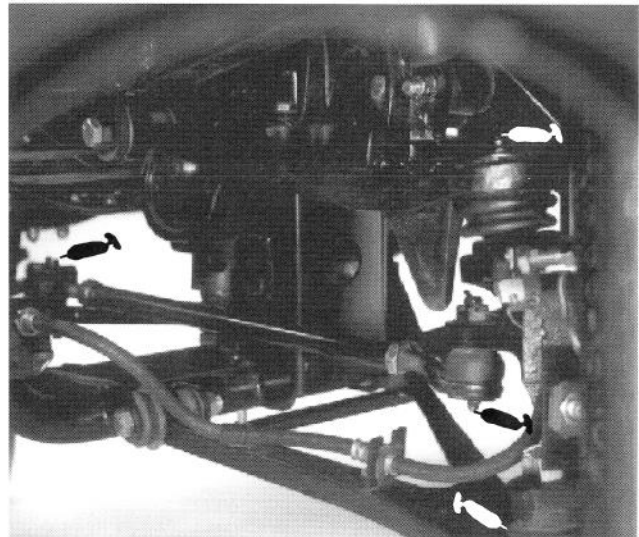
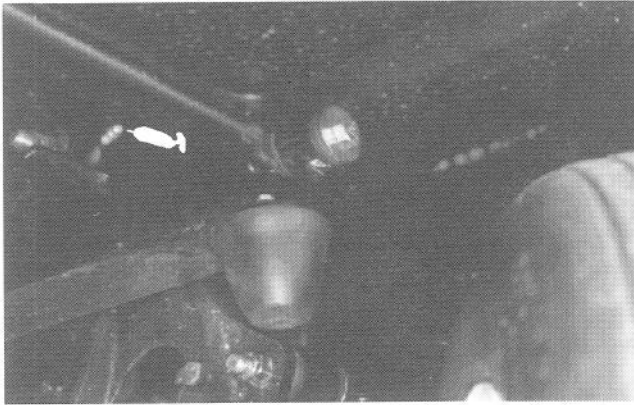
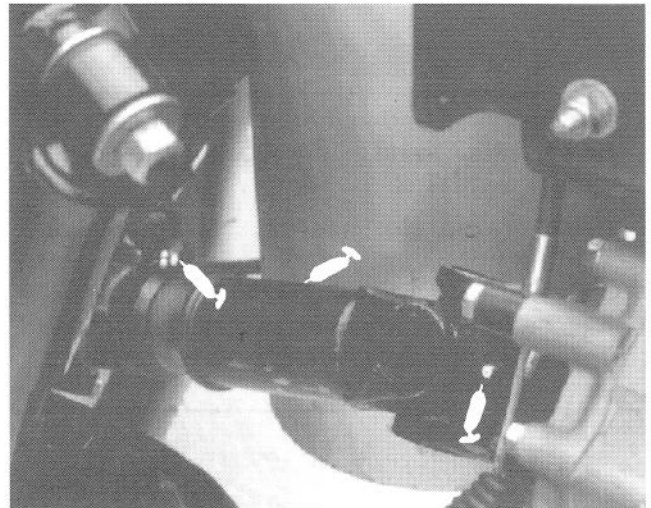
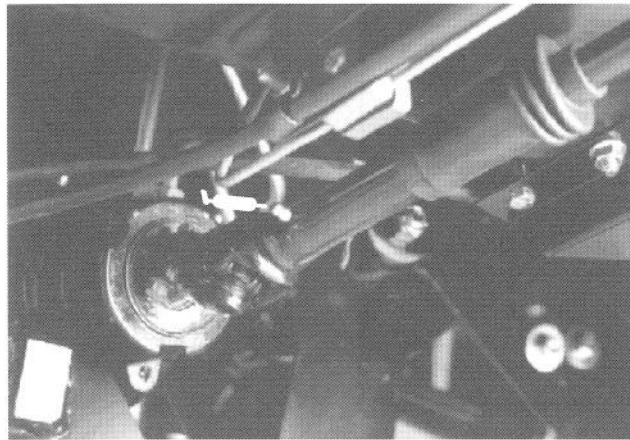

Figure 21
Figure 22
Figure 23
Figure 24
The grease fitting locations and quantities are: Tie rod ends (4) (Fig. 21), Front ball joints (4) (Fig. 21), Rear drive shafts (6) (Fig. 23), Steering shaft (1) (Fig. 24) and Front pivot bushings (2) (Fig. 22).